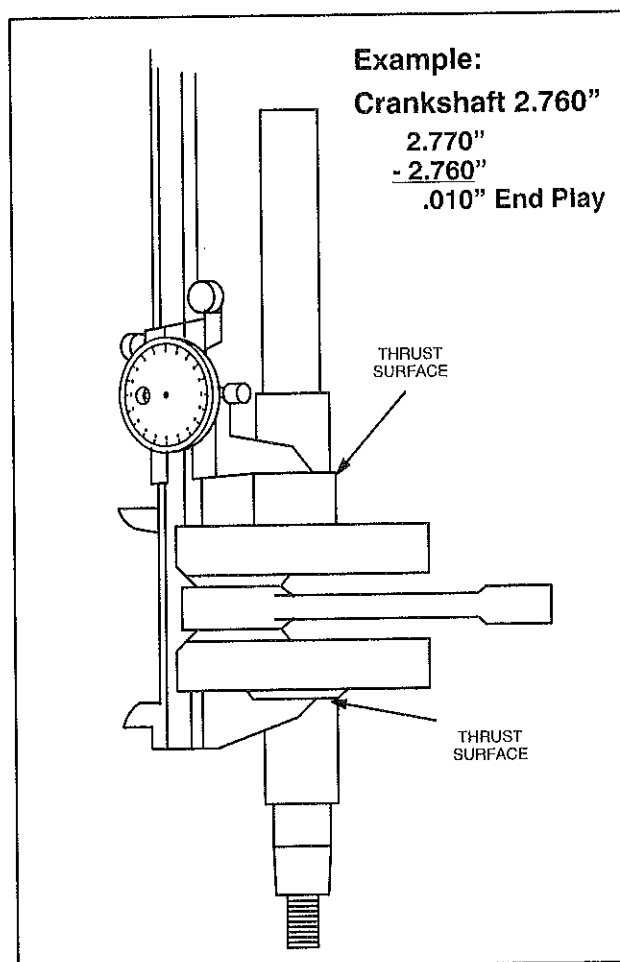

Fig. 25 - Measuring Crankshaft
6. Using dial caliper, measure crankshaft between thrust surfaces, Fig. 25. Record this dimension.